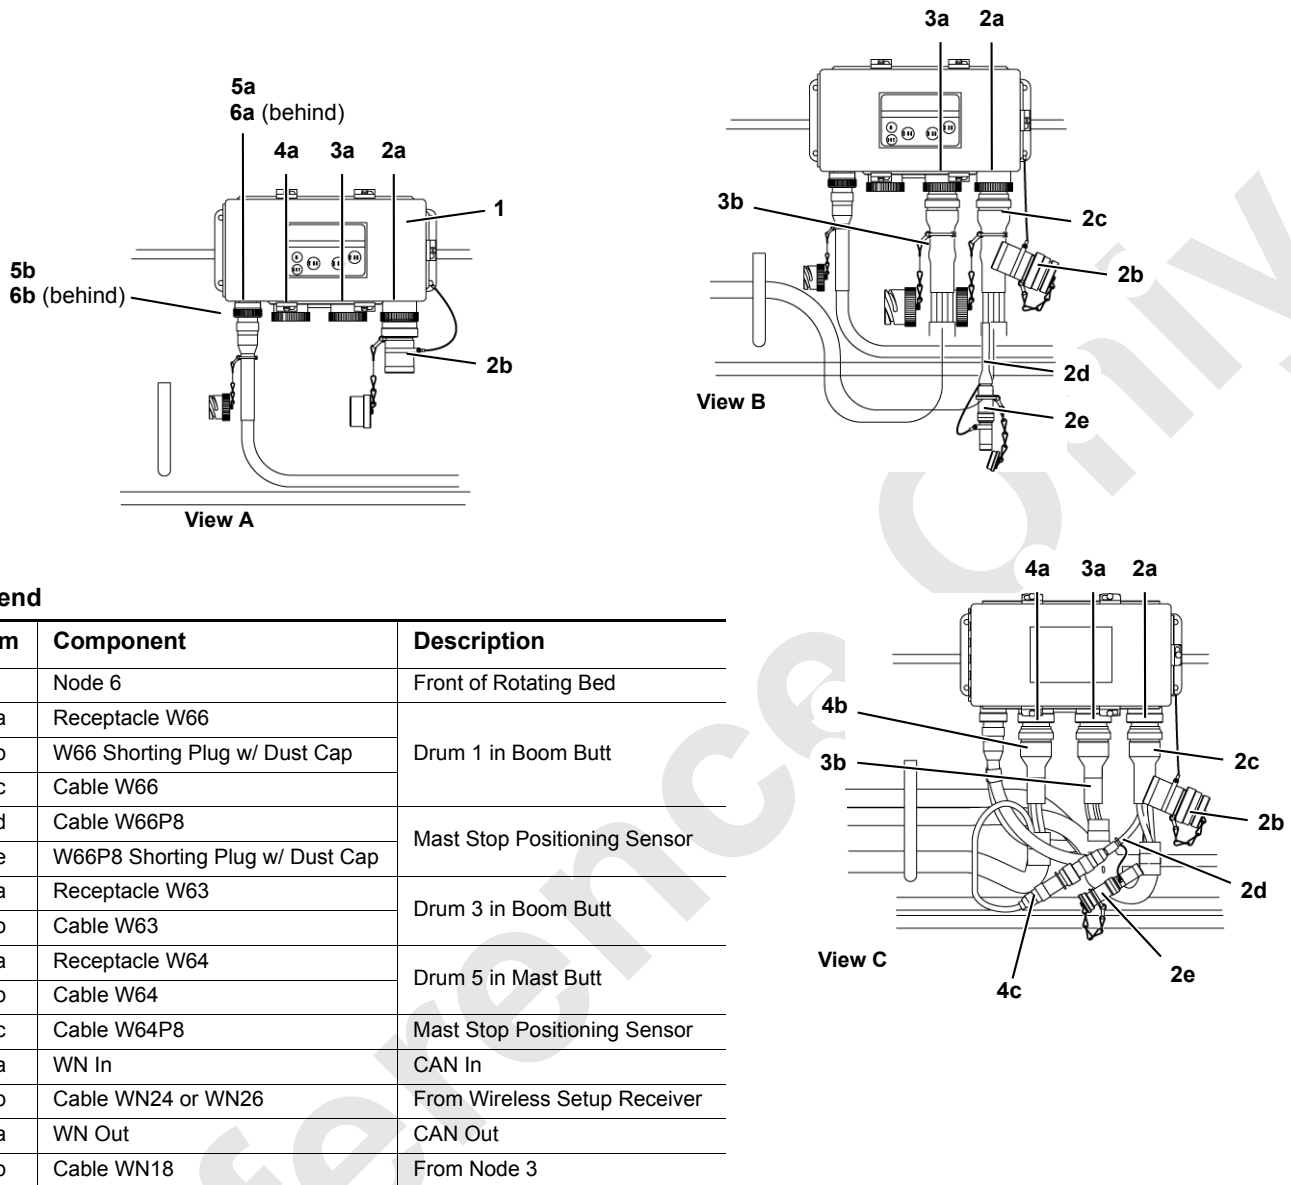

FIGURE 4-22
- a. Remove terminator plug (6, View E) from electric cable (3) on crane.
- b. Connect electric cable (8) from boom butt to cable (3).
- NOTE:** For Node-6 electrical connections with Mast Stop Limit Switch, reference Figure 4-22 for cranes with software version M002066 or newer.
- a. Remove pins (3, View A) and rotate links (4) to working position (View B).
See Figure 4-22 for the following procedure.